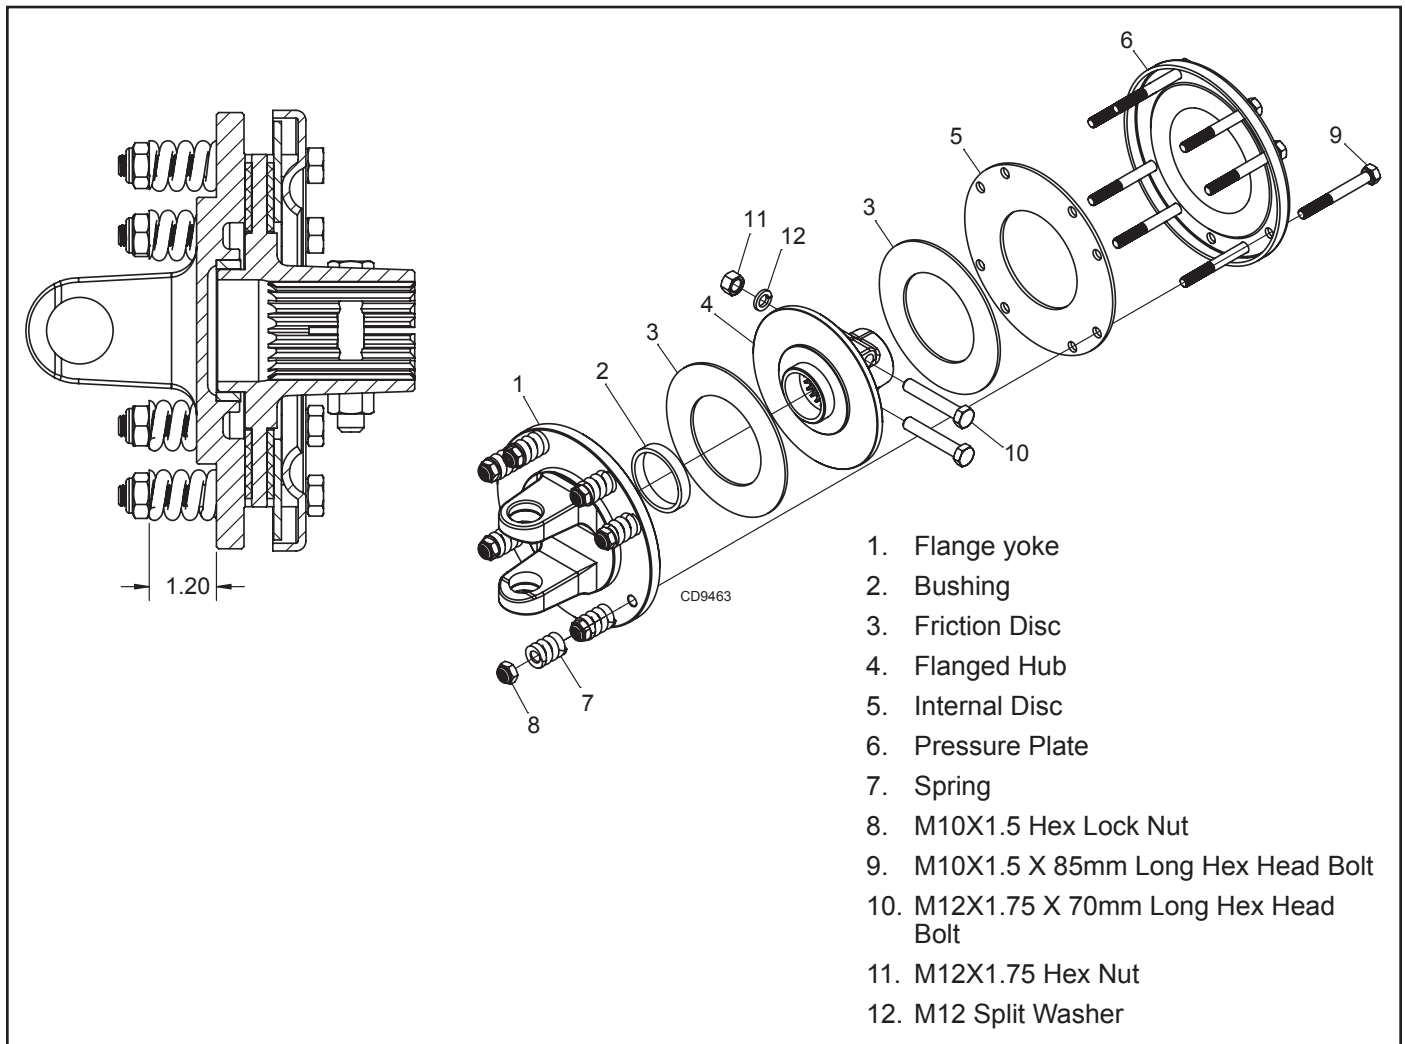

Figure 8. Slip Clutch Assembly
(FIGURE 8)
4. Loosen six 10 mm cap screws (9) to remove tension from Pressure plate (6).
5. Hold flange hub (1) solid and turn shaft to make sure clutch slips.
6. If clutch does not slip freely, disassemble and clean the flanged hub faces (4), internal disc (5), and flanged hub (1).
8. Reassemble clutch and tighten bolts (9) no more than 1/8 of a turn at a time until desired setting of 1.2" is reached as shown in Figure 8.
9. If a clutch continues to slip check friction discs (3) for excessive wear. Discs are 1/8" when new. Replace discs after 1/16" wear. Minimum disc thickness is 1/16".